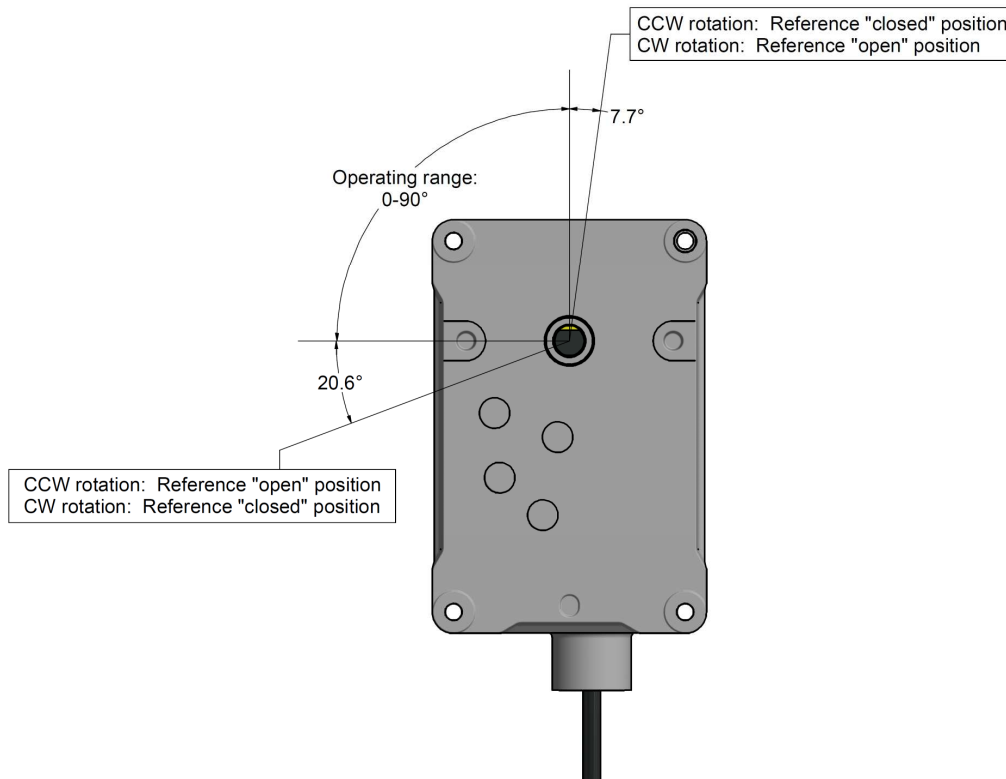

Figure 4-4: Referencing "Closed" vs. Referencing "Open"
7. Set the actuator reference direction. All SQM33... actuators have a range of motion from 0-90° during operation. However, before every startup, each actuator connected must rotate the shaft to either a position less than 0° or a position greater than 90° to reference the actuator shaft position. Rotating to a position less than 0° is called referencing on the “closed” side. Rotating to a position greater than 90° is called referencing on the “open” side. See Figure 4-4 for more details.